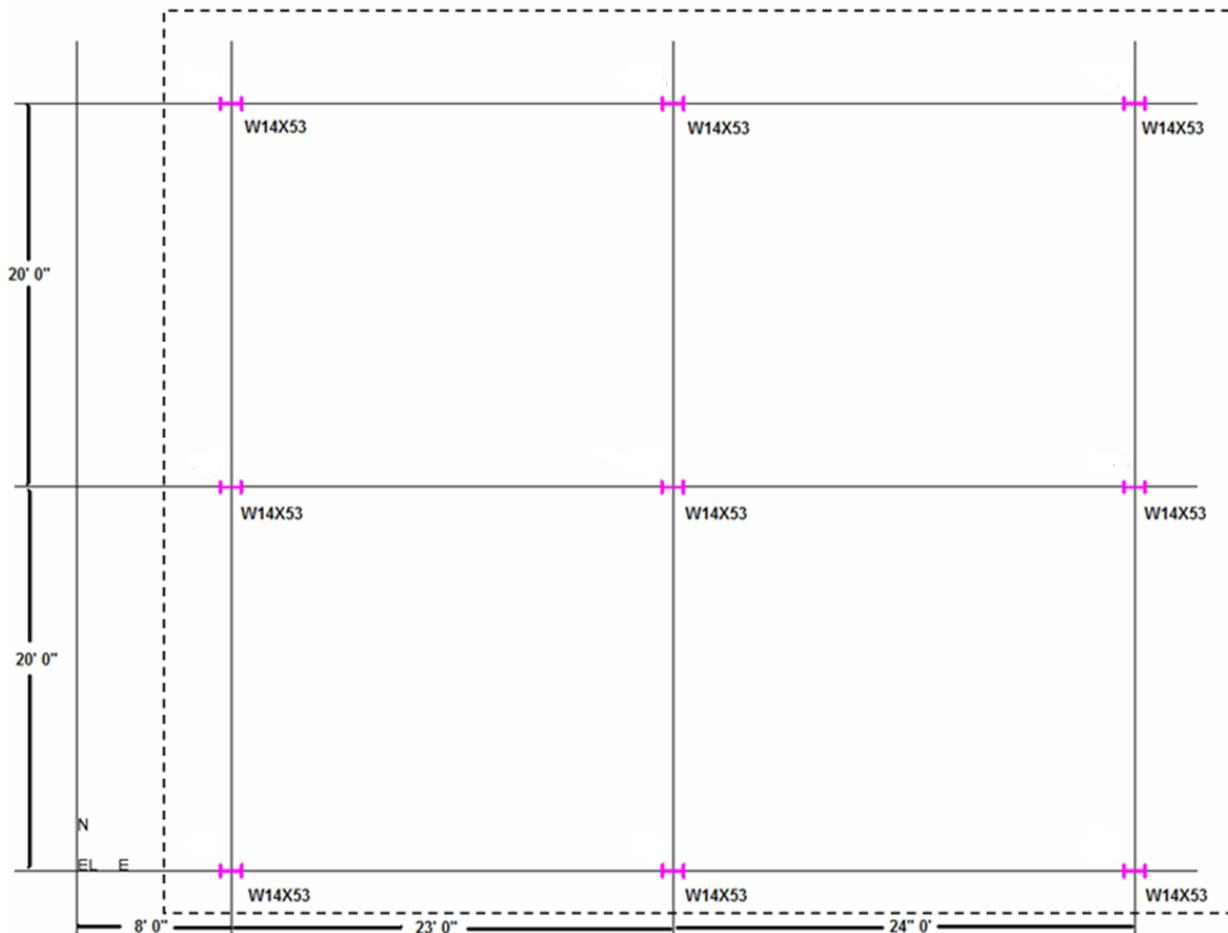

Figure 1 - Floor Plan
9. Place a fence around the floor grid intersections as shown in figure 1.